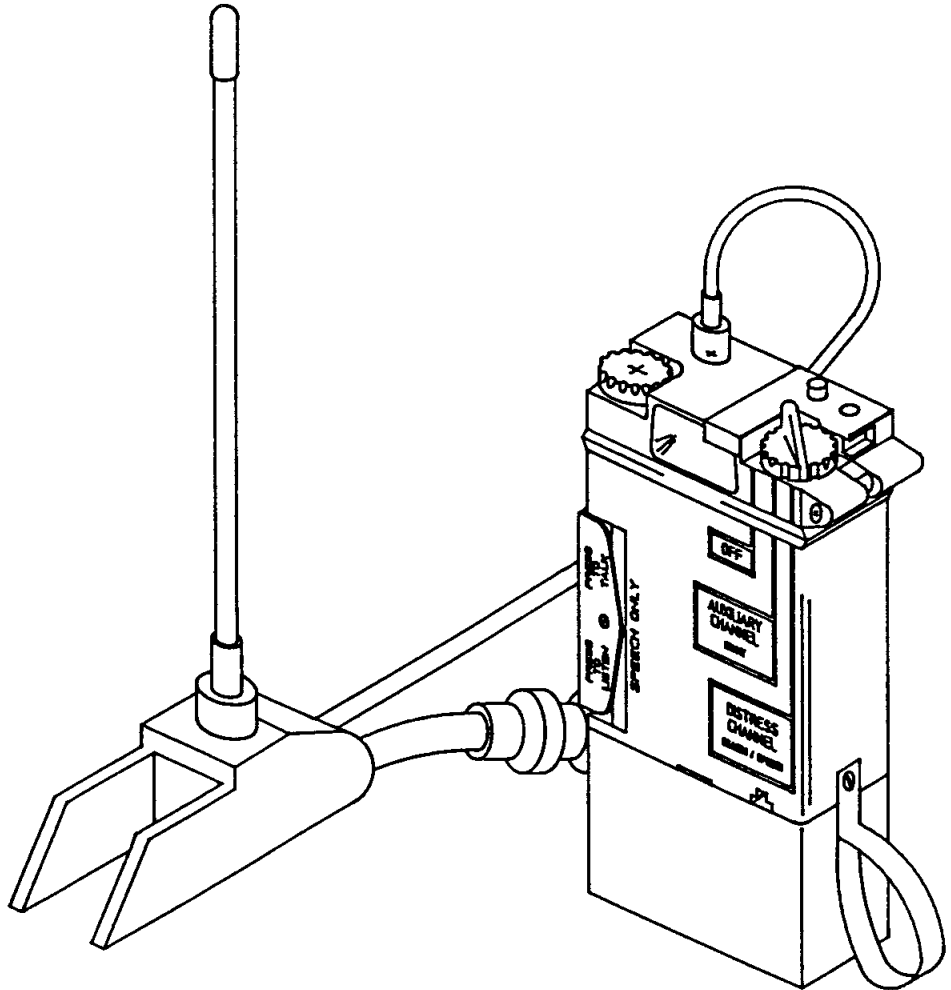

Fig 2. PLB - Training Version (ARI 23237/2)
2. Apart from the differences mentioned in the previous paragraph, the beacon is basically the same as the Operational version. The functional differences are highlighted in fig. 1 (compared with fig.2 of Chap 1-1). Figure 2 below depicts the Training beacon.